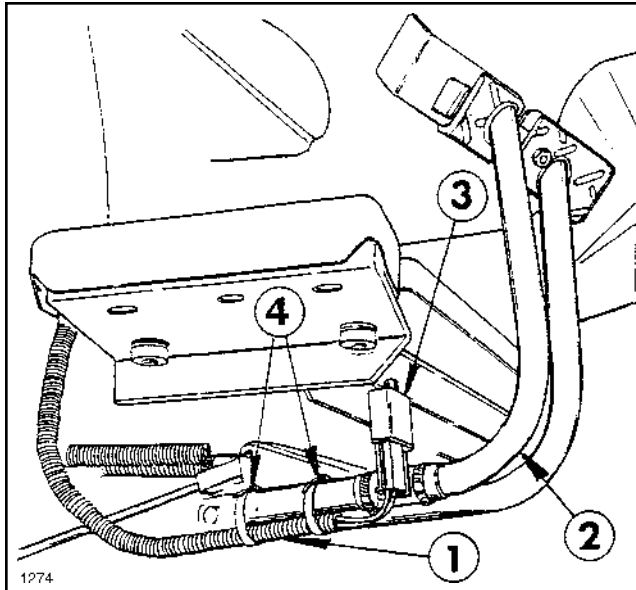

FIG. 5
7. Route the "2-blade" Brake Switch connector from the Wire Harness through the hole in the floor plate, along the Brake Arm and connect it to the Brake Switch. See FIG. 5.